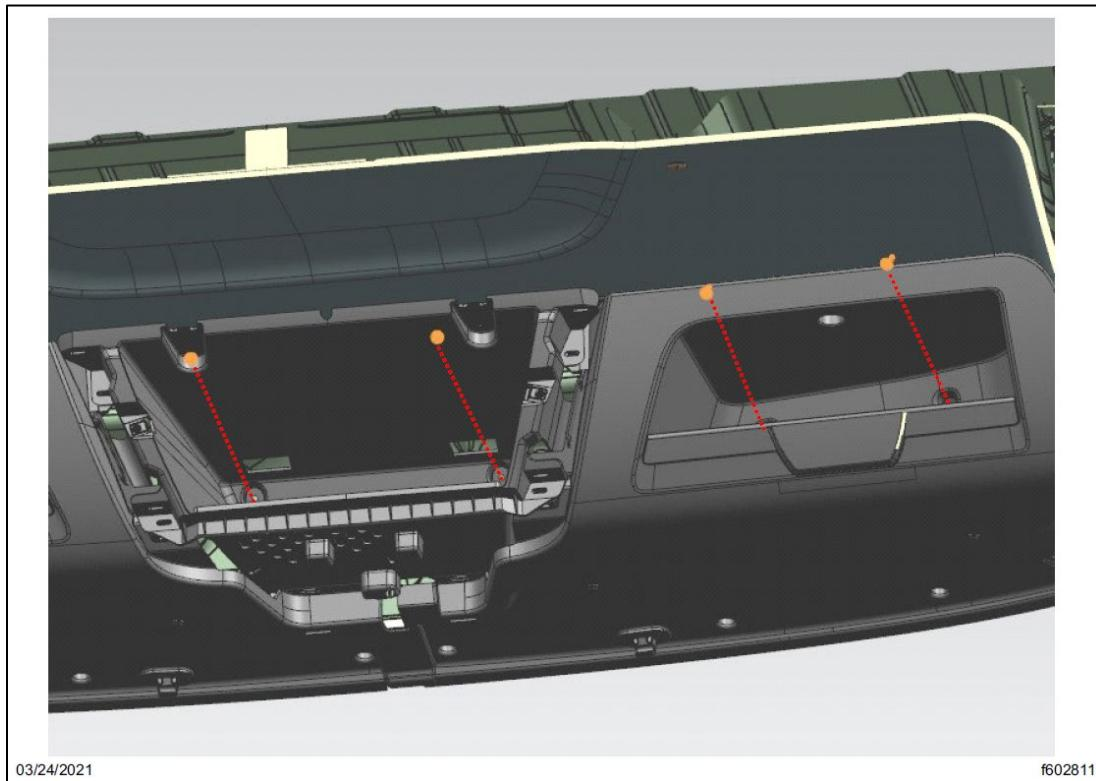

Fig. 17, Fasteners Attaching the Center Storage Bin and the RH Side Overhead Storage Assembly to the Cab Roof
2.4. Remove the fasteners that attach the center storage bin and the RH side overhead storage assembly to the cab roof. See Fig. 17.